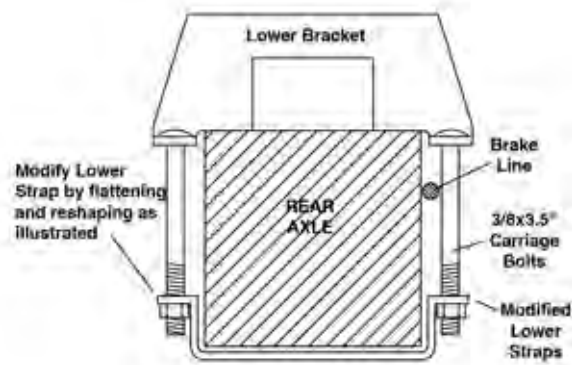

fig. 3
*For pre-1973 chassis (Figure 3), you may need to reform lower straps for square axle housing. This can be accomplished with a bench vise.*